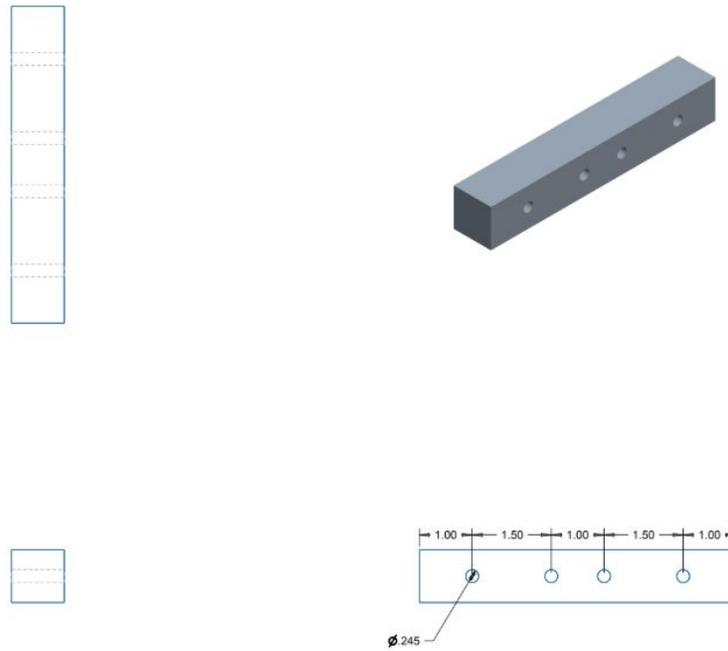

Figure 32. Square aluminum block engineering drawing.
4. Punch holes through the square aluminum block (Figure 32)